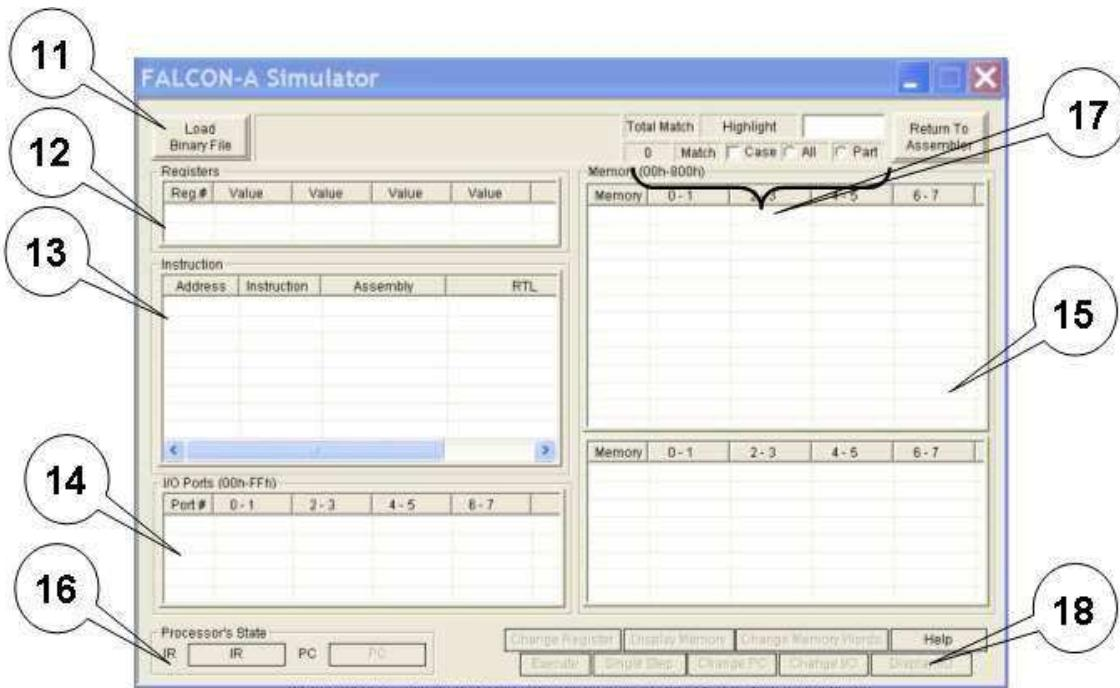

Figure 6
Figure 6 shows a snapshot of the GUI for the FALCON-A Simulator. This tool loads a FALCON-A binary file with a (.binfa) extension and presents its contents into different areas of the simulator. It allows the user to execute the program to a specific point within a time frame or just executes it, line by line. It also allows the user to view the registers, I/O port values and memory contents as the instructions execute.
*Load Binary File:* The button labeled as “11” in Figure 6, allows the user to choose and open a FALCON-A binary file with a (.binfa) extension. When a file is being loaded into the simulator all the register, constants (if any) and memory values are set.
*Registers:* The area labeled as “12” in Figure 6. enables, the user to see values present in different registers before, during and after execution.
*Instruction:* This area is labeled as “13” in Figure 6 and contains the value of PC, address of an instruction, its representation in Assembly, the Register Transfer Language, the op-code and the instruction type.
*I/O Ports:* I/O ports are labeled as “14” in Figure 6. These ports are available for the user to enter input operation values and visualize output operation values whenever an I/O operation takes place in the program. The input value for an input operation is given by the user before an instruction executes. The output values are visible in the I/O port area once the instruction has successfully executed.
*Memory:* The memory is divided into two areas and is labeled as “15” in Figure 6, to facilitate the view of data stored at different memory locations before, during and after program execution.
*Processor’s State:* Labeled as “16” in Figure 6, this area shows the current values of the Instruction Register and the Program Counter while the program executes.
*Highlight:* The highlight option for the FALCON-A simulator is labeled as “17” in Figure 6. This feature is similar to the way the highlight feature of the FALCON-A Assembler works. It offers to highlight the search string which is entered as an input, with the “All” and “Part” option. The results of the search are highlighted using the yellow color. It also indicates the total number of matches.
The following is a description of the options available on the button panel labeled as “18” in Figure 6.
- To start the simulator, click on the start simulation button labeled as “6”. This will open the dialog box shown in Figure 6.